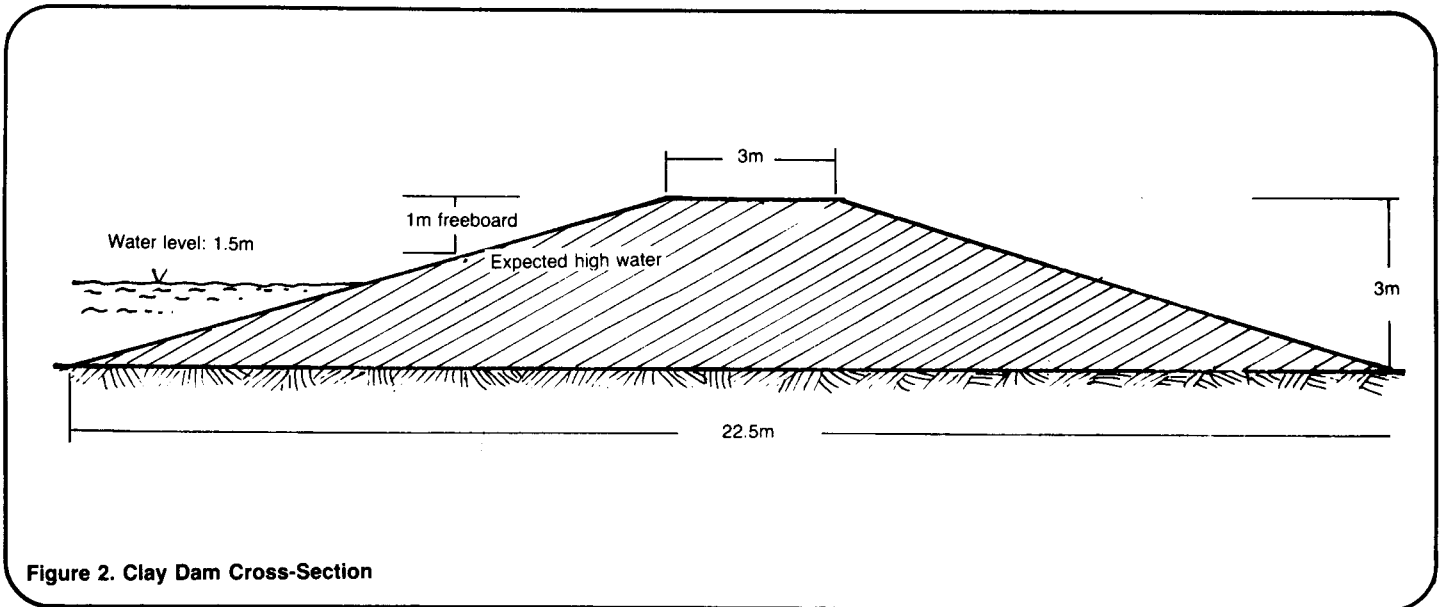

Figure 2. Clay Dam Cross-Section
3. A cross-section of the dam to be built with slope and sample dimensions as shown in Figure 2. Dimensions other than the sample shown should be in line ratios.